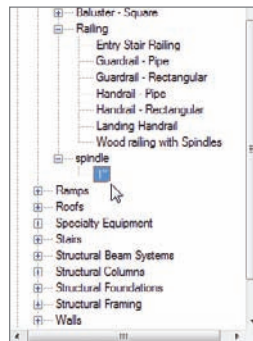

FIGURE 10.62 Finding the Spindle : 1" family to access the material
1. In the Project Browser, you will see a category called Spindle just below Railing, as shown in Figure 10.62. Expand Spindle to expose the 1" family.